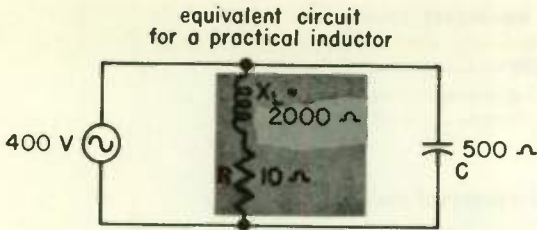

Fig. 50 A circuit with a practical inductor represented by an equivalent circuit.
Since all coils have some resistance, any practical inductor will use some power. However, a practical inductor is represented in diagrams by an equivalent circuit consisting of a perfect inductor with a resistor connected in series to represent the resistance of the inductor. In Fig. 50, for example, the 10Ω of R is the resistance of the coil. The only power used by the entire circuit is that dissipated in resistance R . Since R is in fact part of the coil, the power would actually be dissipated within the coil as heat.
1. Determine the power dissipated in the circuit of Fig. 50.